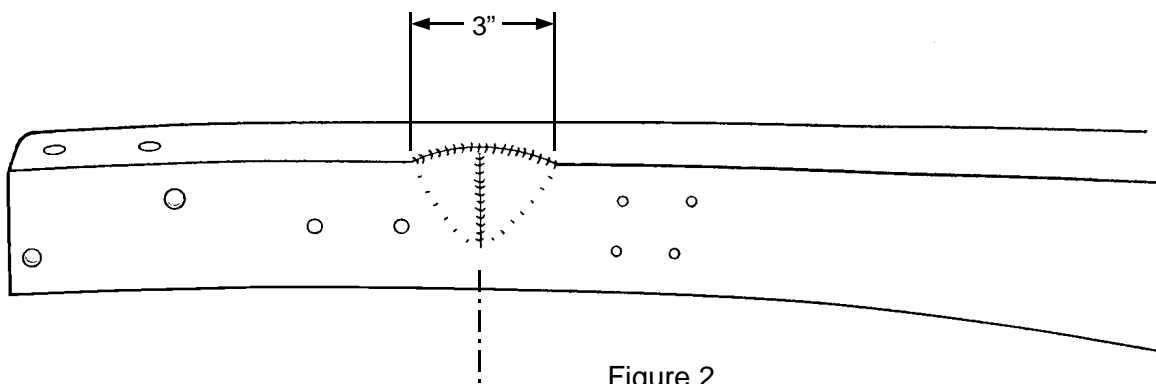

Figure 2
6. The final preparation step is to slightly dimple the outer frame rails for the coil springs, centering the dimples on the axle centerline. Figure 2 shows how to cut the frame to create the dimple reliefs. Cut as shown and press or tap the rails in; then weld back together. It is not critical that the dimples be done exactly this fashion, but the dimples should be approximately 3/8" deep at the top. After it is all welded up and ground, it will look like factory depressions in the frame. The spring towers will cover them anyway, so don't worry a lot about their appearance.